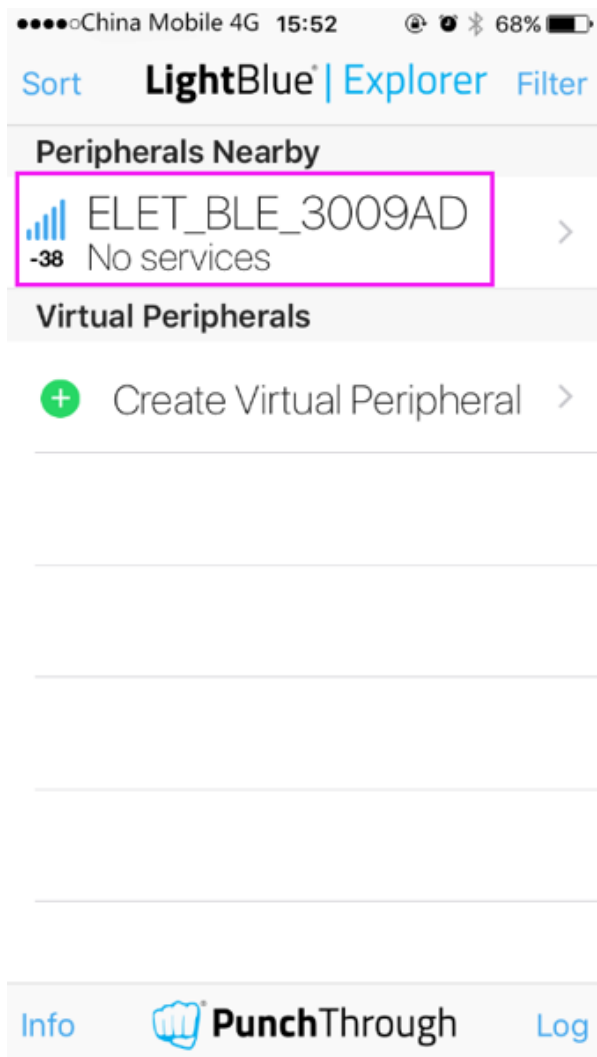
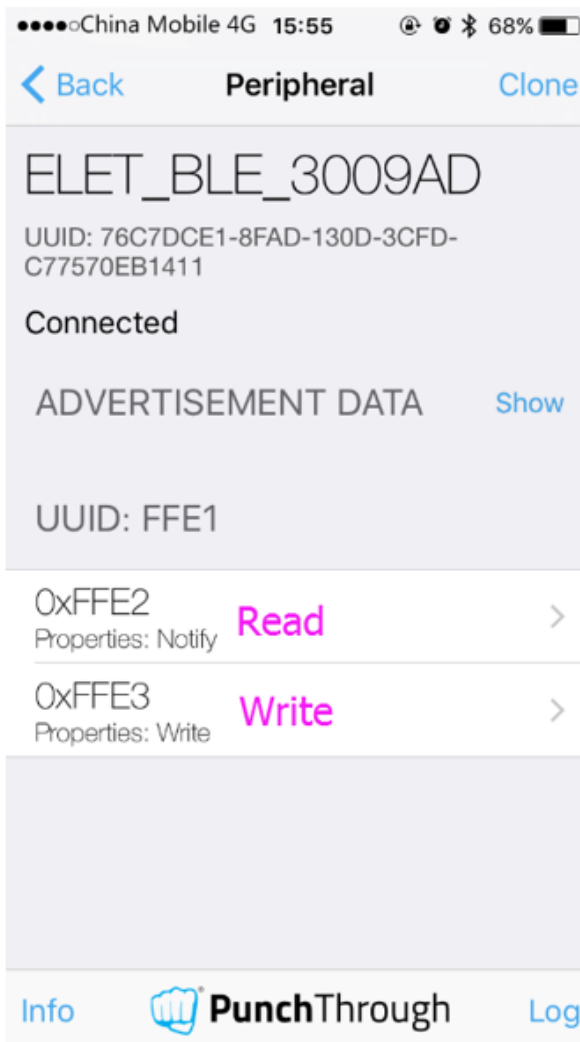

Fig 4
Fig 5
Step 5: If the Bluetooth is connected successfully, you will see ELET_BLE_XXXXXX as shown in Fig 4. Hit it to connect, then it redirects to the interface in Fig 5. Read and Write Page are separated.